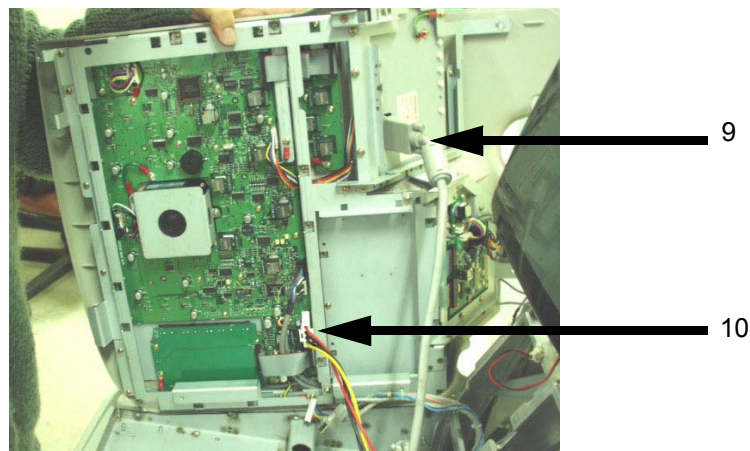

Figure 8-51 Disconnect two connectors
- 5.) Disconnect two connectors (9-10). Refer to Figure 8-51 on page 8-14 .